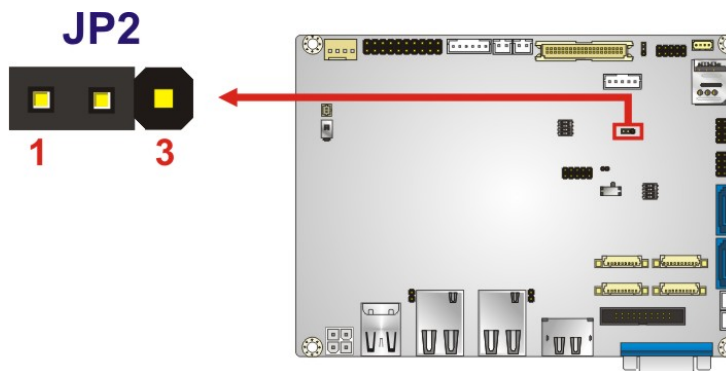

Figure 4-14: LVDS Voltage Select Jumper Location
- Jumper Location:** See **Figure 4-14**